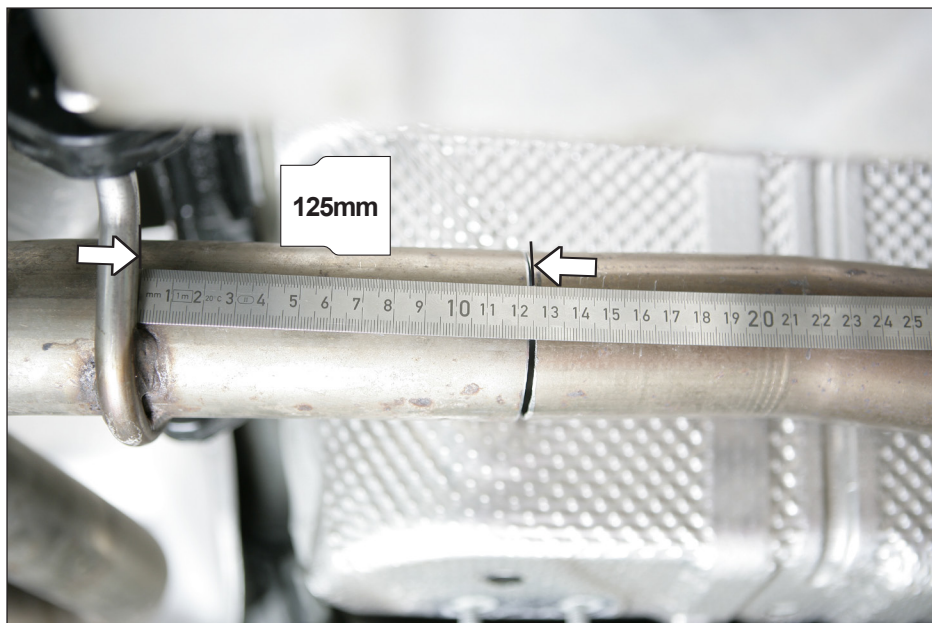

Figure 3
2. **For GTD model only:** mark the stock pipe **125mm** from the pipe's bracket. Carefully cut the pipe, using pipe cutting tool or equivalent (**Figure 3**).